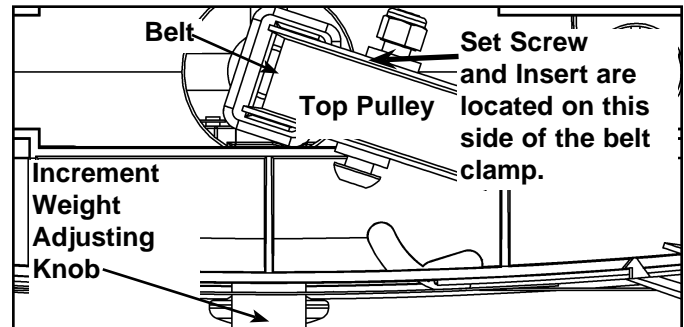

Figure 7
B. Verify the belt clamp on the top weight is positioned properly with the top pulley. **NOTE:** The belt must have a straight path from the pulley to the belt clamp. See Figure 7. **NOTE:** Figure 7 shows the top view, looking from the top pulley down to the top plate.